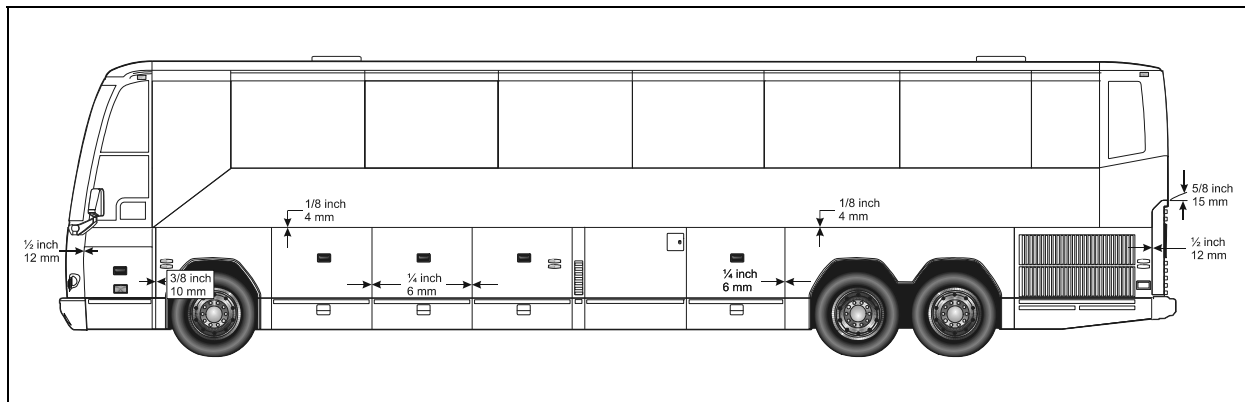

FIGURE 51: BODY PANEL SPACING
- At the top of windshield, clean surface between fiberglass and rubber extrusion using Sika 205 (Fig. 51).